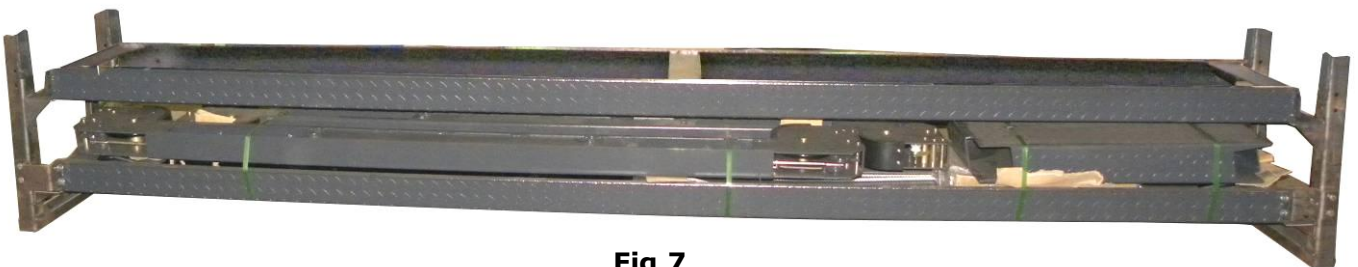

Fig.7
3. Take off the drive-in ramps and columns (See Fig.7).